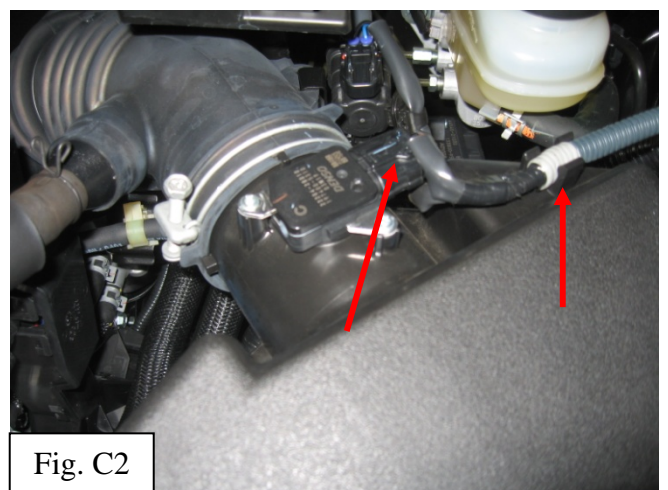

Fig. C2
- iii. Unplug the Mass Air Flow Sensor connector. (Fig. C2)
- iv. Remove wire harness from the air cleaner lid. (Fig. C2)
- i. Reconnect the Mass Air Flow Sensor connector. (Fig. C2)